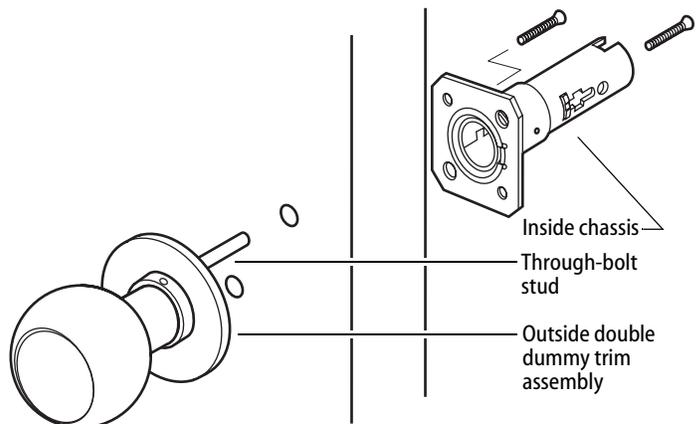

Figure 4– Installing the 8K double dummy trim
For 8K double dummy trim, disassemble the inside trim assembly only. There is no need to disassemble the outside trim. The outside trim assembly is the assembly that has through-bolt studs. See Figure 4.
- outside dummy trim assembly. See Figure 4.
- Install the outside trim assembly from the outside of the door. See Figure 4.